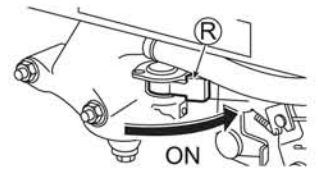

Fig. 11
2. Set Fuel cock (R) to "ON". (See Fig. 11)